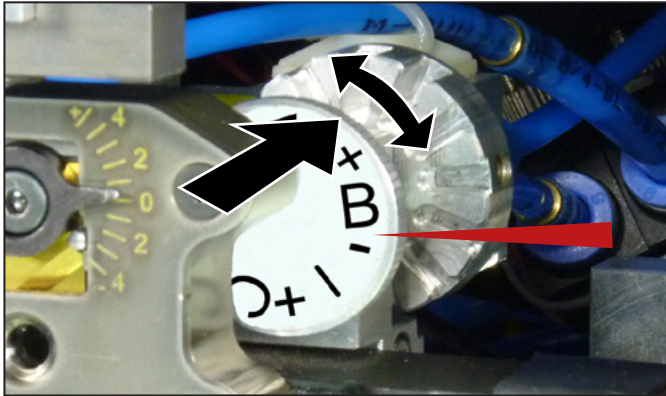

Figure 5.4 Release device adjustment (set: B)
- Press the adjusting wheel backwards and turn it so that the required value is at the marked position (see figure 5.4).